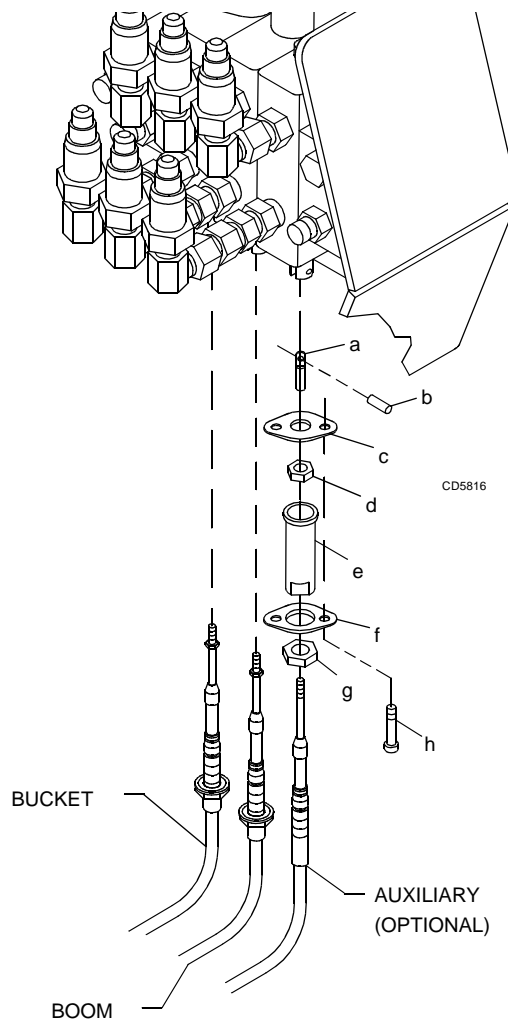

Figure 29 Control Cable Assembly
2. If the lever movement is not equal or the "float" position cannot be engaged, adjust the cables as follows (refer to Figure 29):